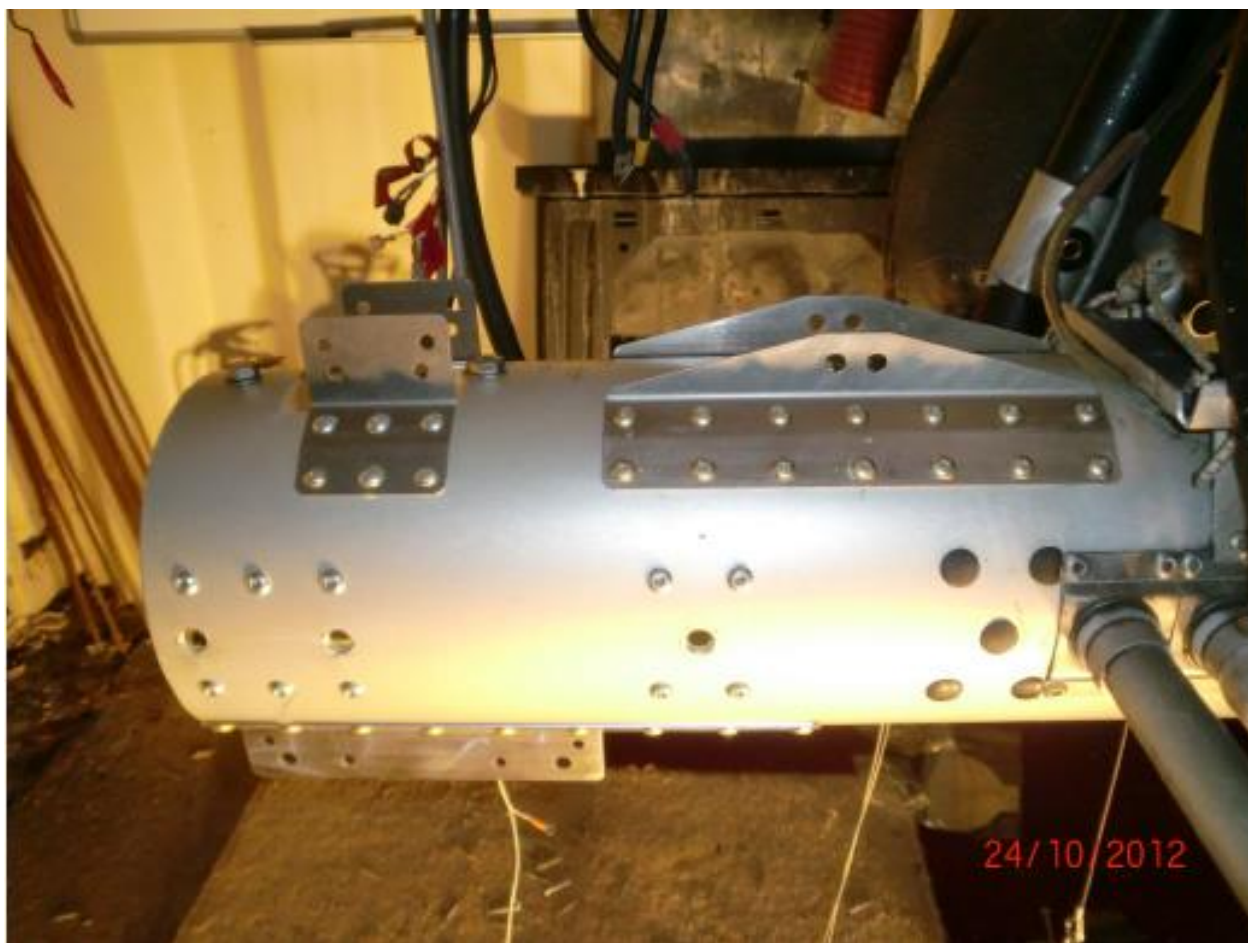

Figure 9
1. The stainless steel brackets securing the A-strut to the top side of the fuselage tube (the rear most brackets) were lengthened in around 2007, see Figure 9.